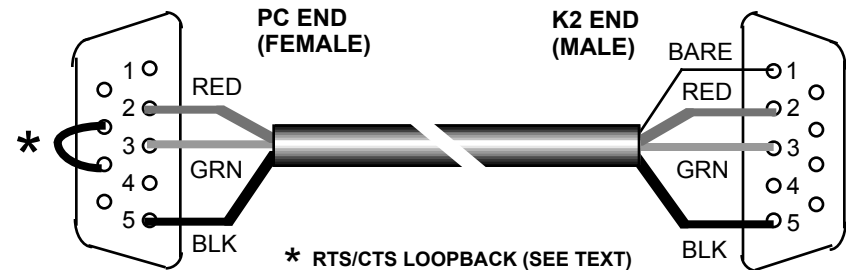

Figure 40
- Locate the DB9F (female) and DB9M (male) connectors. Arrange them as shown in Figure 40 (male connector on the right, solder cups facing up). Make sure the 5-pin rows are facing each other.
- As shown in Figure 40, pins 7 and 8 of the female connector can be wired together (using a discarded component lead) to provide RTS/CTS loop-back². Some software requires this *hardware handshaking*. We recommend that you make this connection, unless you're sure that your application software does not need it. Some programs use these lines for CW keying, etc.
- Solder the RED, GREEN, and BLACK wires of the PC end of the cable (the end with no shield wire) to the female connector. Refer to Figure 40.